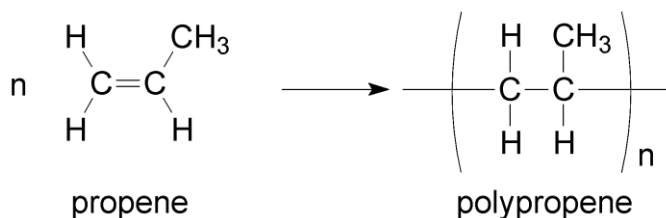

Fig 5.1
Polymerisation is a chemical process where small molecules (monomers) combine to form a large molecule (polymer) through the formation of covalent bonds. Fig 5.1 shows the process of joining many propene monomers to form polypropene. The type of polymerisation is known as addition polymerisation as only 1 single product is formed.
- (a) (i) The polymerisation of 1 mole of propene to form polypropene (Fig 5.1) has a standard entropy change of $-110 \text{ J mol}^{-1} \text{ K}^{-1}$.